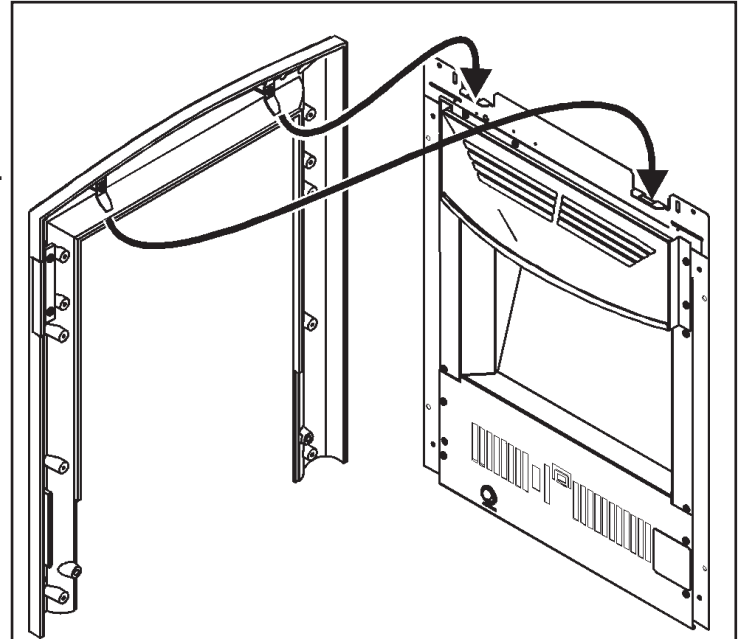

Figure 9. Fitting the Dream fascia
2. Hold the fascia firmly and lift into place. Locate the fascia hanging brackets into those on top of the firefront (See figure 9). Lower the fascia into place and swing the bottom of the fascia towards the firefront.